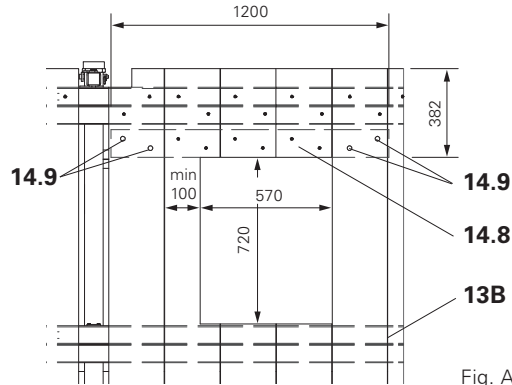
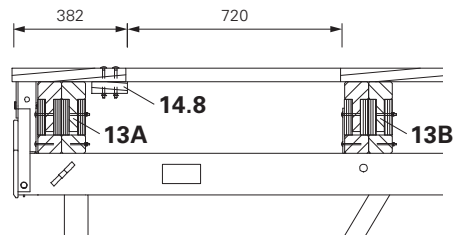

Fig. A2.03
Fig. A2.04
- The timber (14.8) is 2x bolted in each case to the lateral continuous planking. Round head bolts DIN 603 M8 x 100 (14.9) with washer ISO 7094 100 HV A8. (Fig. A2.03 and Fig. A2.04)